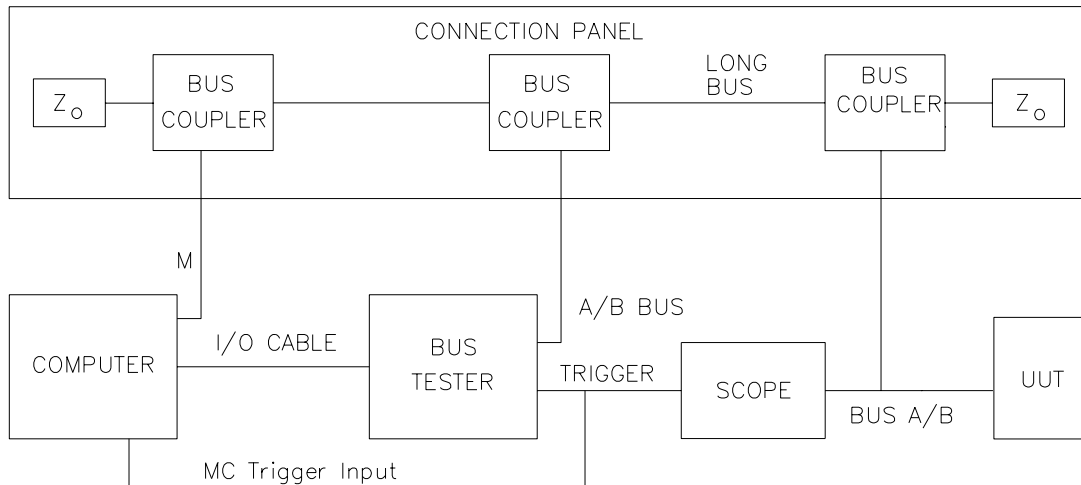
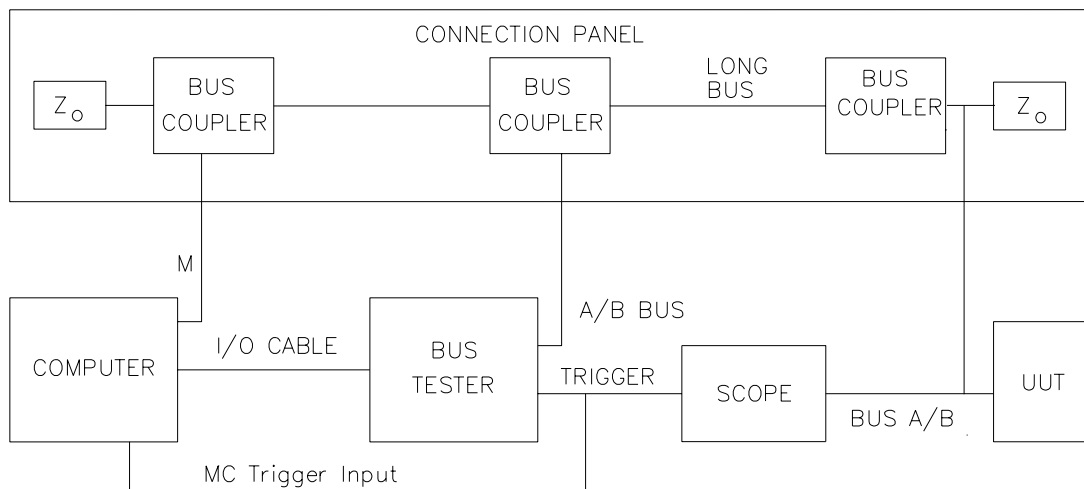

Figure 9. Electrical Input Transformer Coupled Configuration
Figure 10. Electrical Input Direct Coupled Configuration
1. Connect the equipment as shown in Figure 9 or Figure 10 for the transformer coupled or direct coupled bus to be tested. See Figure 1B of the RT Validation Test Plan for the General Bus Configuration.